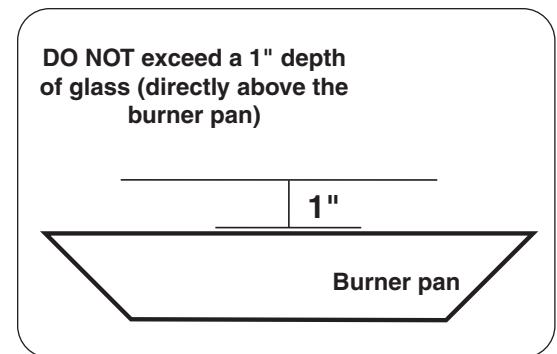

Fig. 22-2 Proper media placement
- DO NOT exceed a 1" depth of glass (directly above the burner pan) as shown in Fig. 22-2. Any additional glass/gems above the burner may cause unsafe operation.